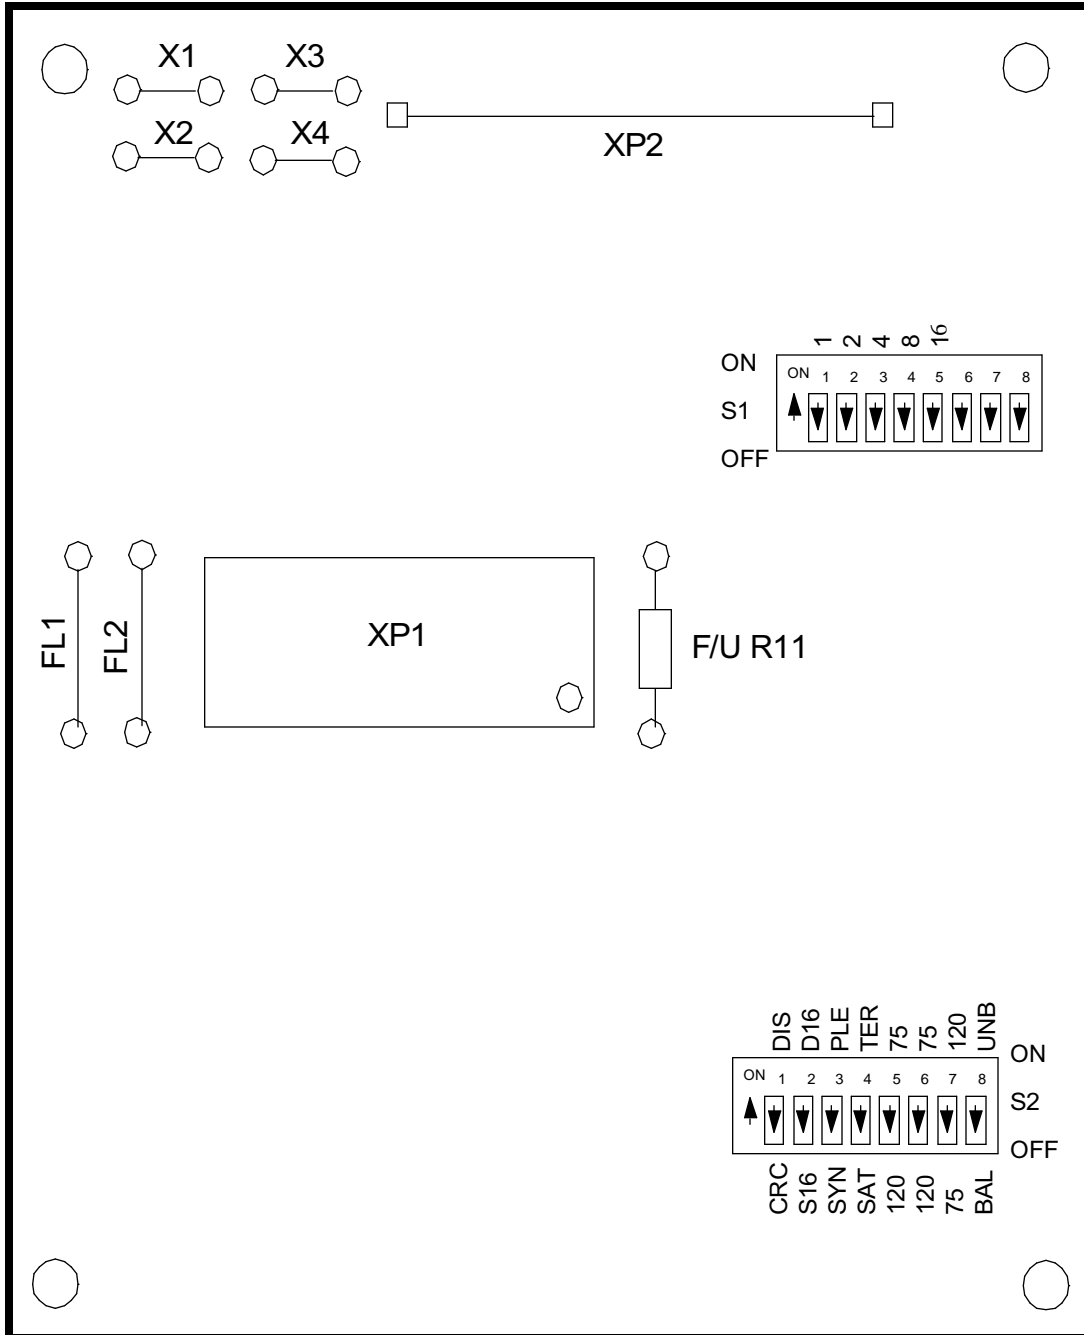

Figure 2-9 G.704 Aggregate Interface Piggyback Card
Using Switches S1 and S2 on the G.704 Aggregate Interface Piggyback Card, CRC4 multiframe, time Slot 16, synchronous/plesiochronous clocking mode and the elastic buffers may be selected in addition to the Transmit/Receive impedance at the aggregate and the line balance. *See Figure 2-9. Table 2-14* defines the option selections and describes the application of each. *Table 2-15* shows the buffer size/delay time of the plesiochronous buffers.
- Receive End — The grounding of signal RCVDATB is achieved by moving DIP Switch S2-8 on the G.704 Aggregate Interface Piggyback card to the UNB or closed (ON) position. This connects RCVDATB to Signal Ground.
- Transmit End — The grounding of signal XMTDATB is achieved by soldering a zero ohm resistor (or a simple wire link) to future use resistor R11 (F/U R11) located on the right hand side of connector XP1 (*See Figure 2-9*). This connects XMTDATB to Signal Ground.